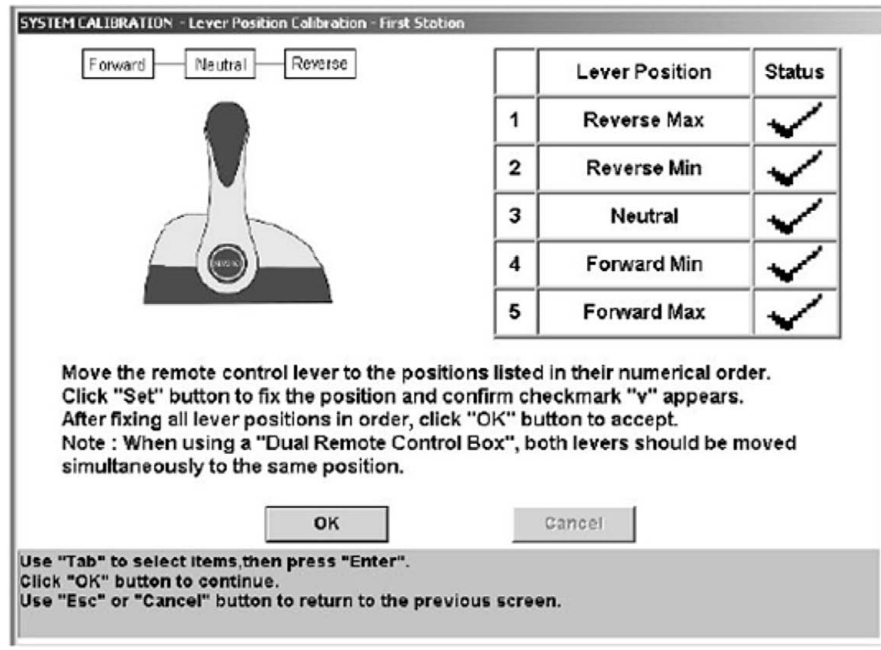

Figure 6-14. Save calibrated values.
6. When all lever positions have been set, and the screen shows check marks next to all of them (see Figure 6-14), return the control levers to the neutral position and click **OK** to save the calibration.